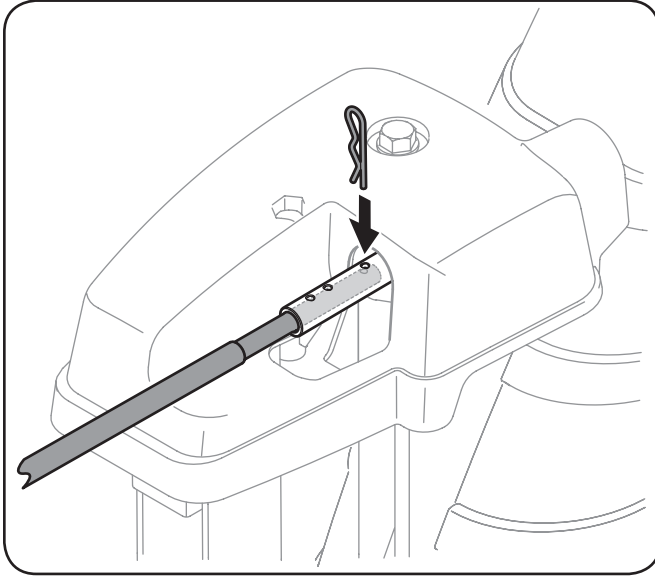

Figure 4-2
2. Push in the chute control rod until the hole in it lines up with the third hole in the chute rotation assembly. See Figure 4-2.
3. Reinsert the cotter pin through this hole and the chute control rod as shown in Figure 4-2.